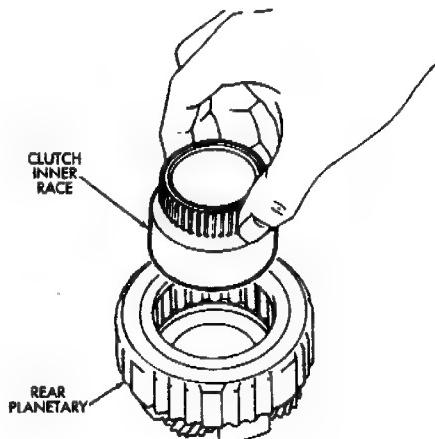

Fig. 7 Removing/Installing Clutch Inner Race
(6) Install clutch retaining snap ring and install clutch inner race (Fig. 7). Turn race counterclockwise to ease installation.